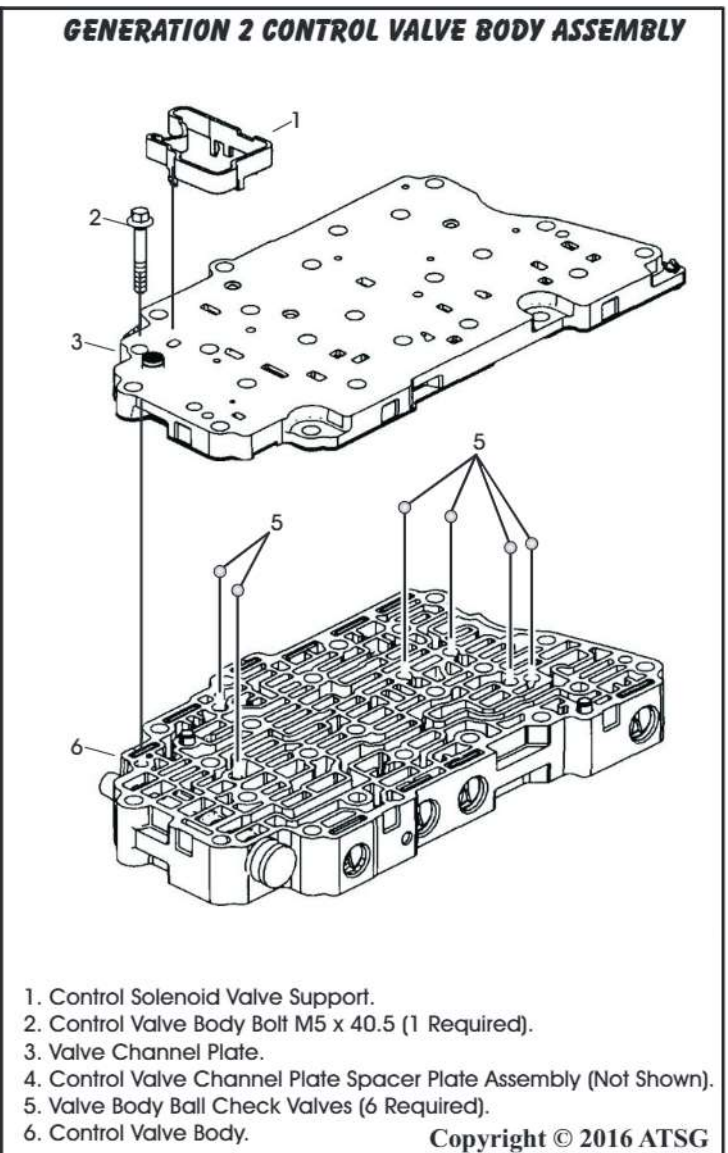

Figure 132
5. Remove the control valve body bolt and the solenoid valve support from the Generation 2 valve body assembly as seen in Figure 132.
6. Remove the valve body channel plate, See Figure 132, with the spacer plate held against the channel plate to prevent the small parts from falling out should the spacer plate retainer not hold.
7. Carefully remove all small parts from the valve body channel plate and set them aside for reassembly as shown in Figure 132.
8. Take note of the six steel checkball locations before removal shown in Figure 132.
9. Remove the six steel check balls from the main control valve body assembly and set them aside for reassembly as shown in Figure 132.